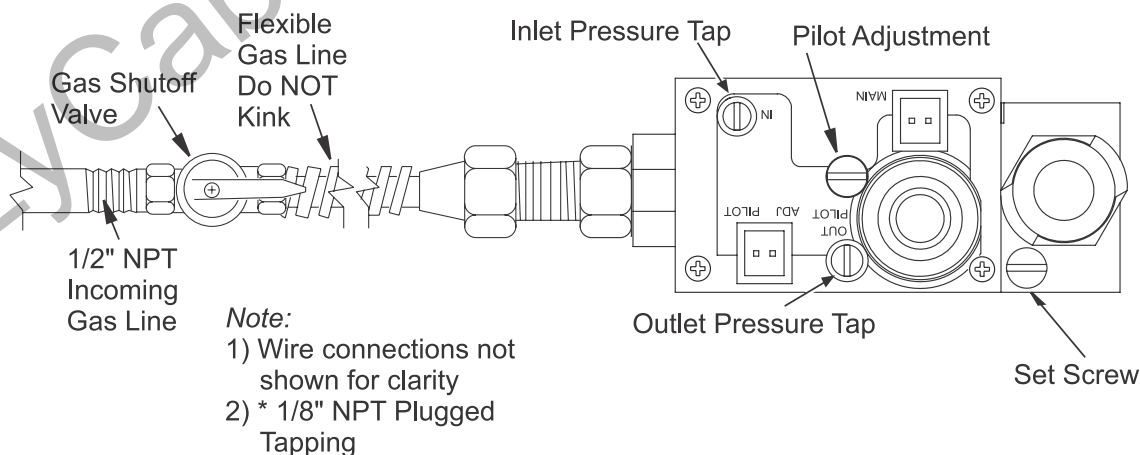

Figure 22 - Connecting Incoming Gas Line to Flex Gas Line
2. Attach flexible gas line from gas supply to control valve (see Figure 22).